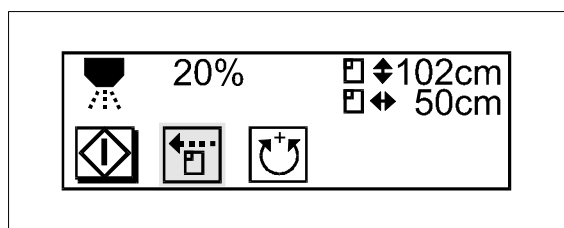

Fig. 20: Example: Intermittent mode
- To return to intermittent mode from continuous mode, press button S10 until the symbol for continuous mode lightens. You can then switch over to intermittent mode by pressing buttons S8 or S9. The selected operating mode (intermittent mode) will be confirmed by pressing button S10 (Fig. 20).